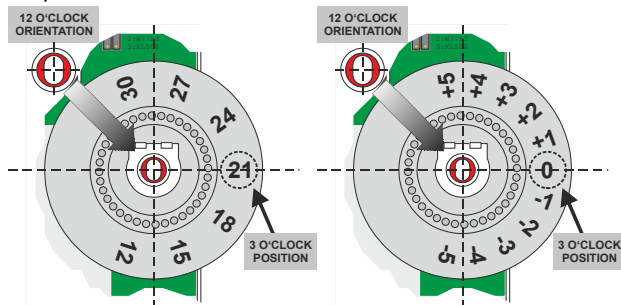

Fig. 4. Mounting position of setpoint dial
5. (T7460B,C,D,E,F only) With the double-D hole of the potentiometer in the "12 o'clock" orientation (see Fig. 4), hold the setpoint dial such that the "21" (Celsius absolute scale) or "0" (Celsius relative scale) is at the "3 o'clock" position and then insert the dial into the hole.